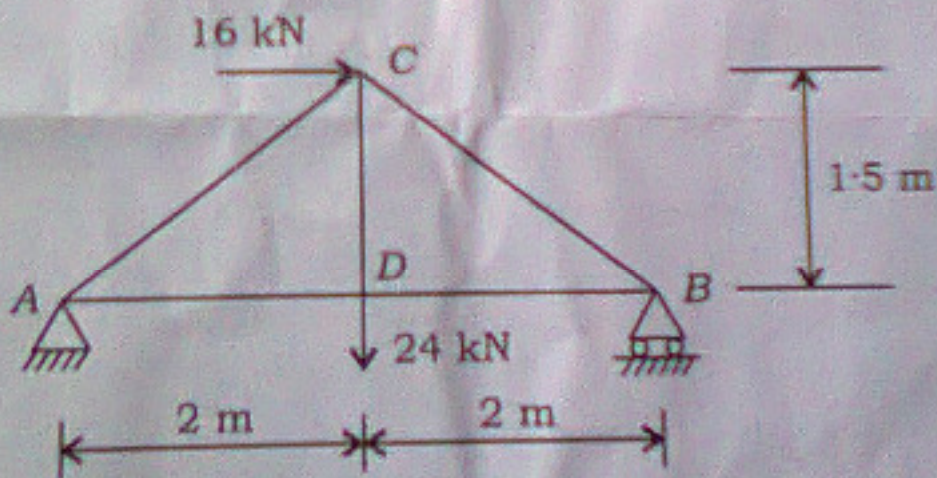

Fig. 8
9. Find the forces in all the members of the truss as shown in Fig. 8.